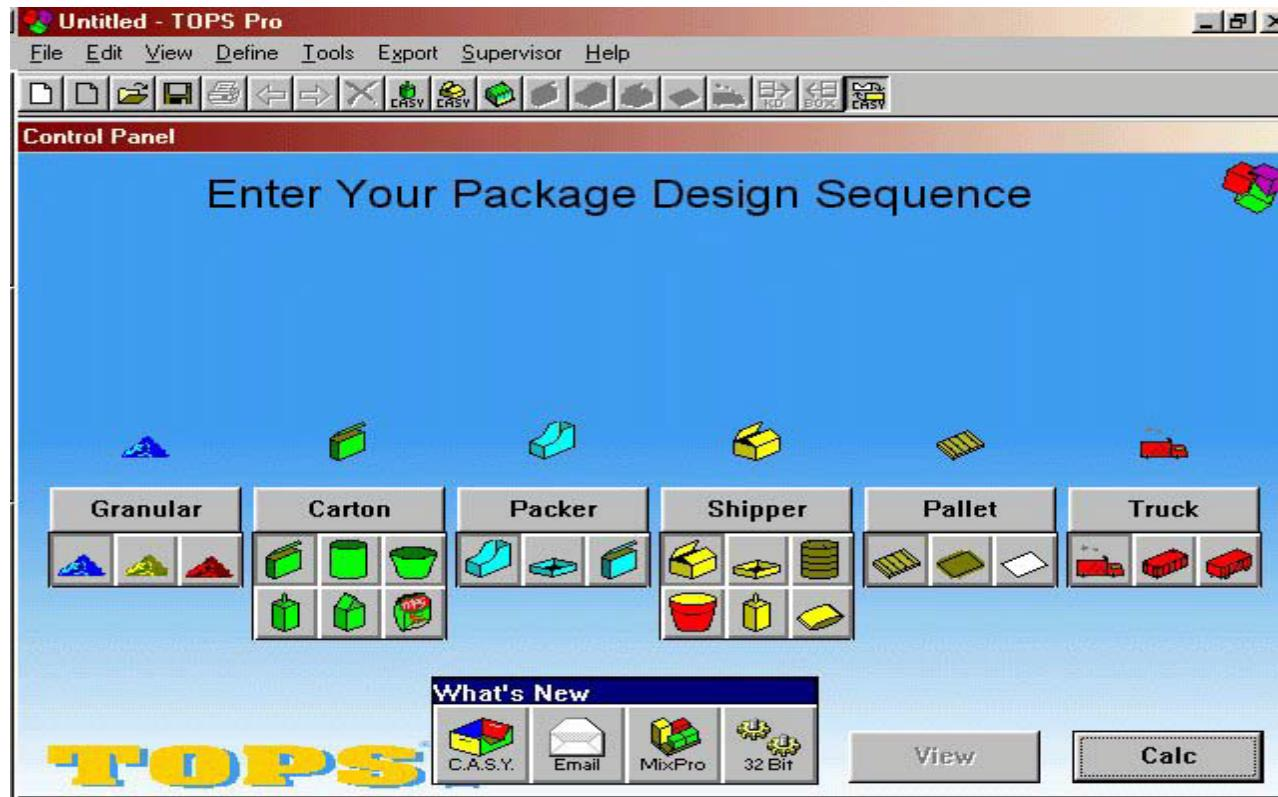

Figure 17.2 Control panel
- **Control Panel** ( Figure 17.2)